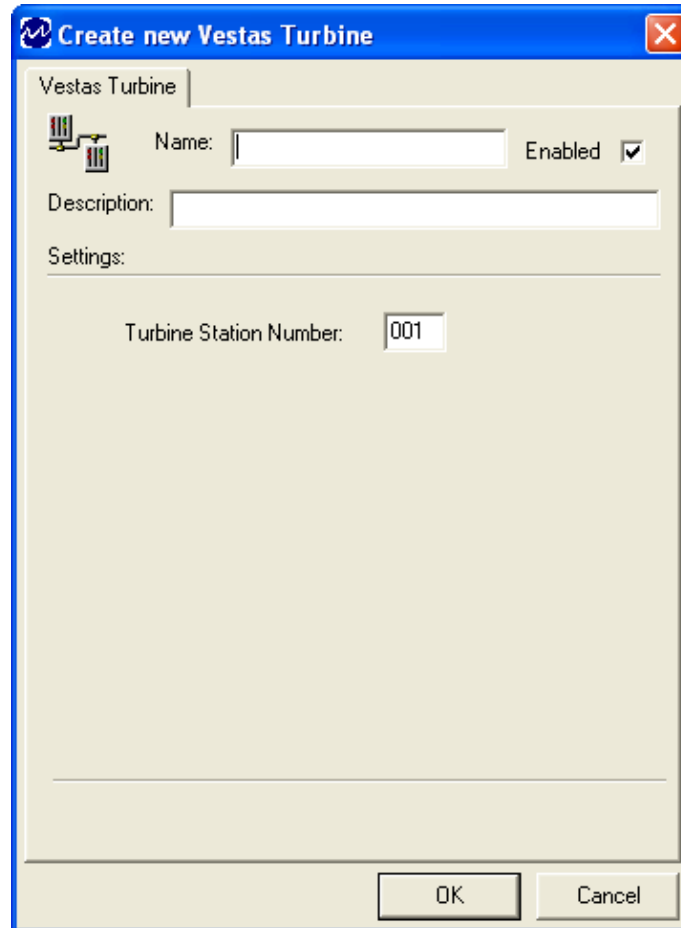

Figure 13 - Create New Vestas Turbine Window
Figure 13 displays the **Create New Vestas Turbine** window.
- The **Create New** window appears (Figure 13).